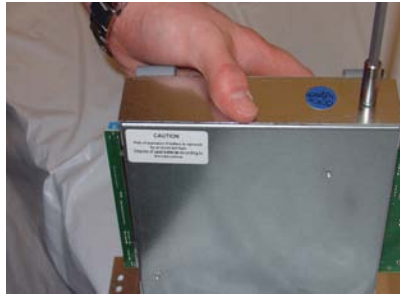

Figure 2. Remove screws.
4. Remove the top and bottom screws from the Main board assembly using either a flat-tip screwdriver or 1/4" nut driver (Figure 2).
5. The following steps involve separating the Main board housing. The housing for the Main board is actually two (2) panels that fit together.